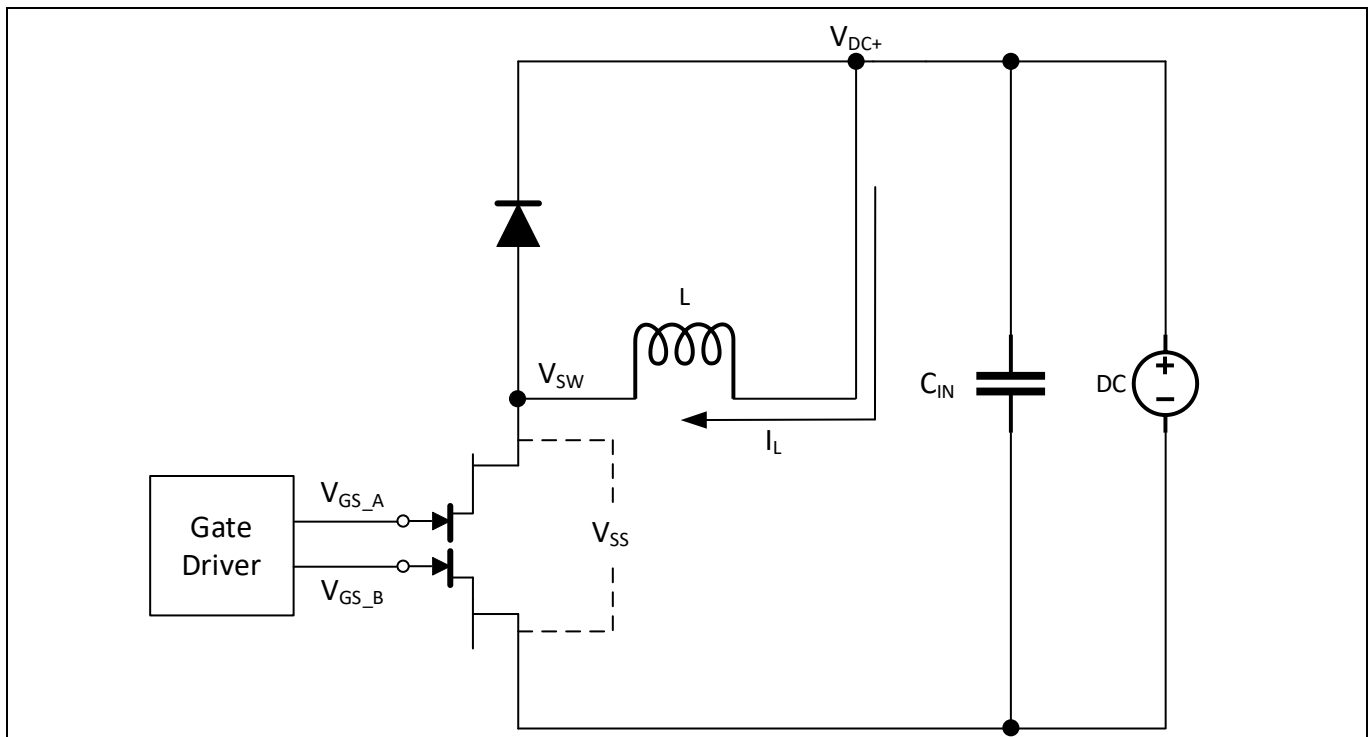

Figure 16 Double pulse test setup
For proper setup and connections for double pulse testing as shown in Figure 16, provide DC power supply connections. The inductor also connects to the terminal block (V_{DC+} and V_{SW}). It is recommended to use the high current with minimal inductance reduction for the inductor (L), as it can handle high pulse current without being saturated. No load is required for double pulse testing. The inductor energy is dissipated in the freewheeling diode.